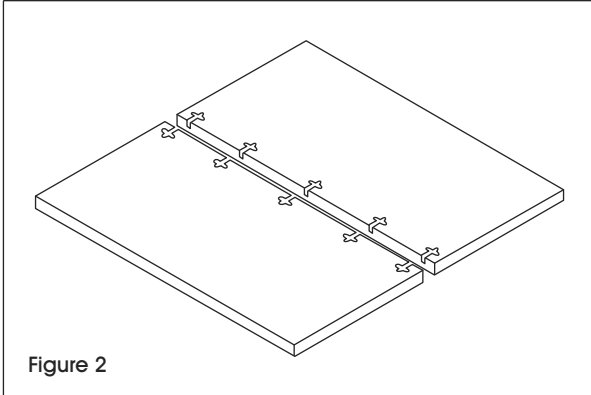

Figure 2
1. Lay top sections with field joint slots facing up on a smooth, non-marring surface to protect top sections from damage. (See Figure 2)